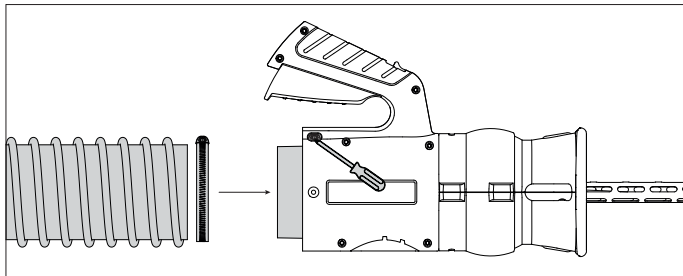

Fig. 4.4 Mounting a 100 mm hose.
- Fasten the hose with a hose clamp. Use the designated holes in the Grabber to fasten the clamp. Refer to fig. 4.4.